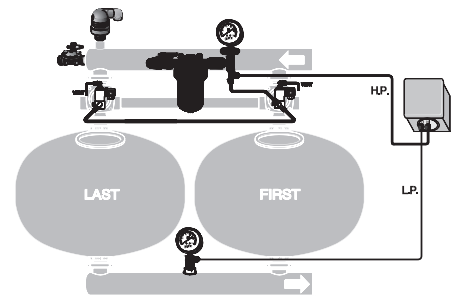
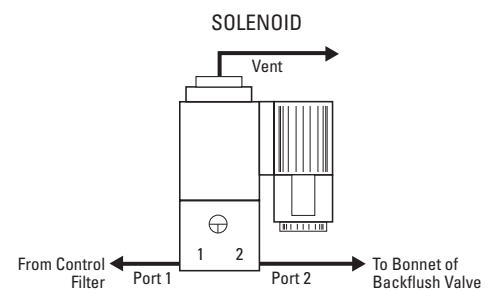

FIGURE 8 - Hydraulic command assembly
FIGURE 9 - Solenoid hydraulic connections
- Connect hydraulic control tubing from the HI Port of the Pressure Differential Switch on the Backflush Controller to the tee fitting labeled HP. This connects to the solenoid on the first AGF filter and continues until all the solenoids are connected. The last solenoid will have an elbow fitting. See Figure 8 and Figure 9.